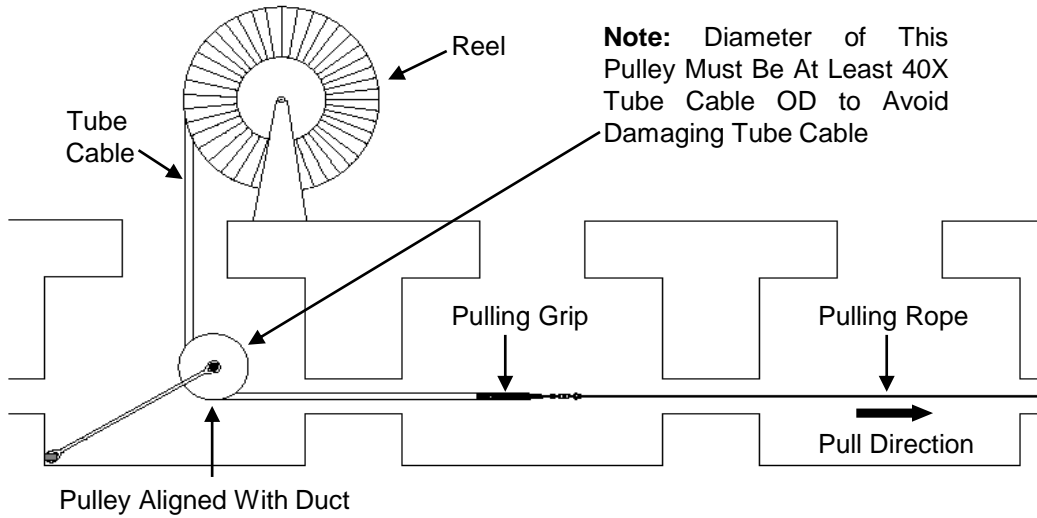

Figure 19
17.1.1 A typical Manual Pulling set-up and operation is shown in **Fig. 19.**